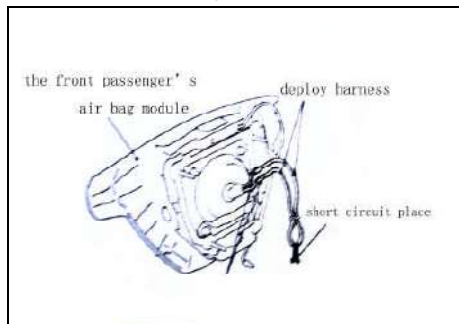

Fig 19-48
4) Using pliers, cut the driver's air bag module connector from the harnesses. Connect the deployment harnesses to each harnesses that has been cut and insulate the connections with plastic tape. (See fig 19-48)